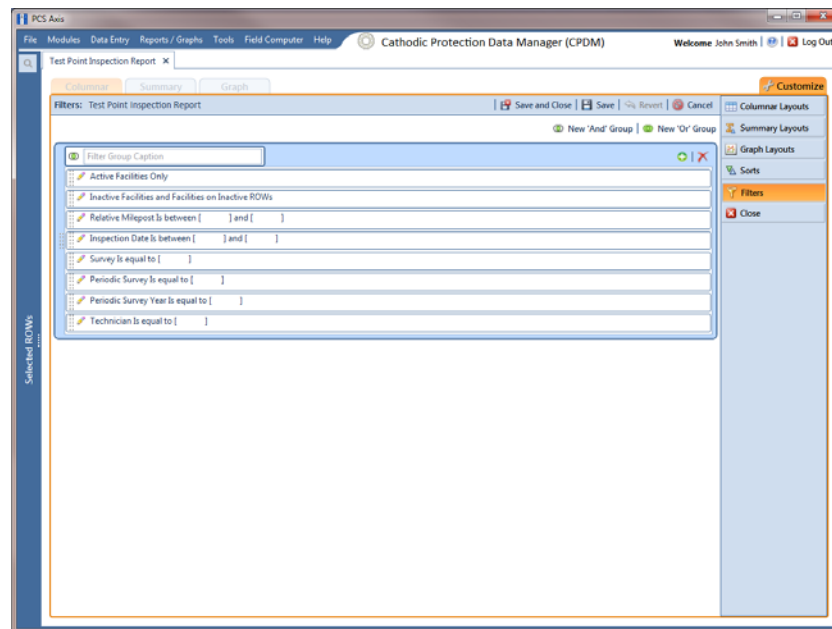

Figure 15-40. Filters
- 3 Click the **Customize** tab  then the **Filters** button  to open the *Filters* page (Figure 15-40).